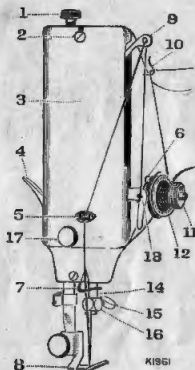
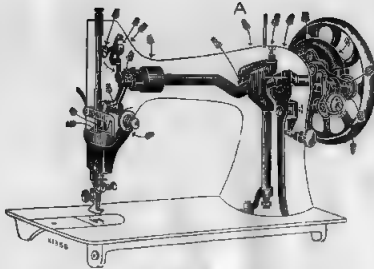

Fig. 5.
Fig. 15.
(See Fig. 5).
Loosen the balance wheel and place a reel of thread on the spool pin. Pass the end of the thread through the wire guide (10, Fig. 5), then into the lower eyelet (5) of the thread guide from below, and into the notch (2) at its top. Now thread the bobbin by passing the thread through the hole in its left disc from the inside, and with the left hand press it on to the bobbin winder spindle (1) and hold. Then with the right hand, turn the small pulley (6) until the hole in the right disc of the bobbin is engaged by the pin in the spindle shoulder. Press the pulley against the ledge of the balance
Raise the take-up lever (9, Fig. 5) to its highest point by turning the balance wheel towards you, and lift the presser foot; then move the material back and to the left, and sever the threads by passing them over the thread cutter above the presser foot. Leave the ends of the threads a few inches long under the presser foot.
For ordinary family sewing it is seldom necessary to change the pressure on the material. If sewing fine silk or flimsy material, lighten the pressure by giving the thumb screw (1, Fig. 5) two or three turns upwards. If it be found necessary to increase the pressure, give the thumb screw a few turns downwards.
All moving parts in contact must be covered with a film of oil **and not allowed to become dry**. Oil should always be applied at the points indicated by arrows in Figs. 15 and 16, a drop of oil being sufficient at any place. To oil the needle-bar mechanism, remove the face plate (3, Fig. 5) by unscrewing the knurled screw (17, Fig. 5) and loosening the small screw (2, Fig. 5). **It is most important that oil should be applied at the point marked "A" (Fig. 15) when the take-up lever (9, Fig. 5) is at its lowest point.** When oiling, insert the oil can spout well into the oil holes. Apply a drop of oil to the small piece of felt lubricating the oscillating hook and to the rollers at the right of the hook shaft. There are also two holes in the hand attachment to which oil should be applied occasionally.
The thread take-up spring (6, Fig. 5) being broken.
Stitches Looping.—This is regulated by the tensions (see page 12). See that both the bobbin case and the needle are properly threaded, and that the thread used is of good quality and the correct size for the needle (see Table on inside of back cover). See that the thread take-up spring (6, Fig. 5) is not broken.